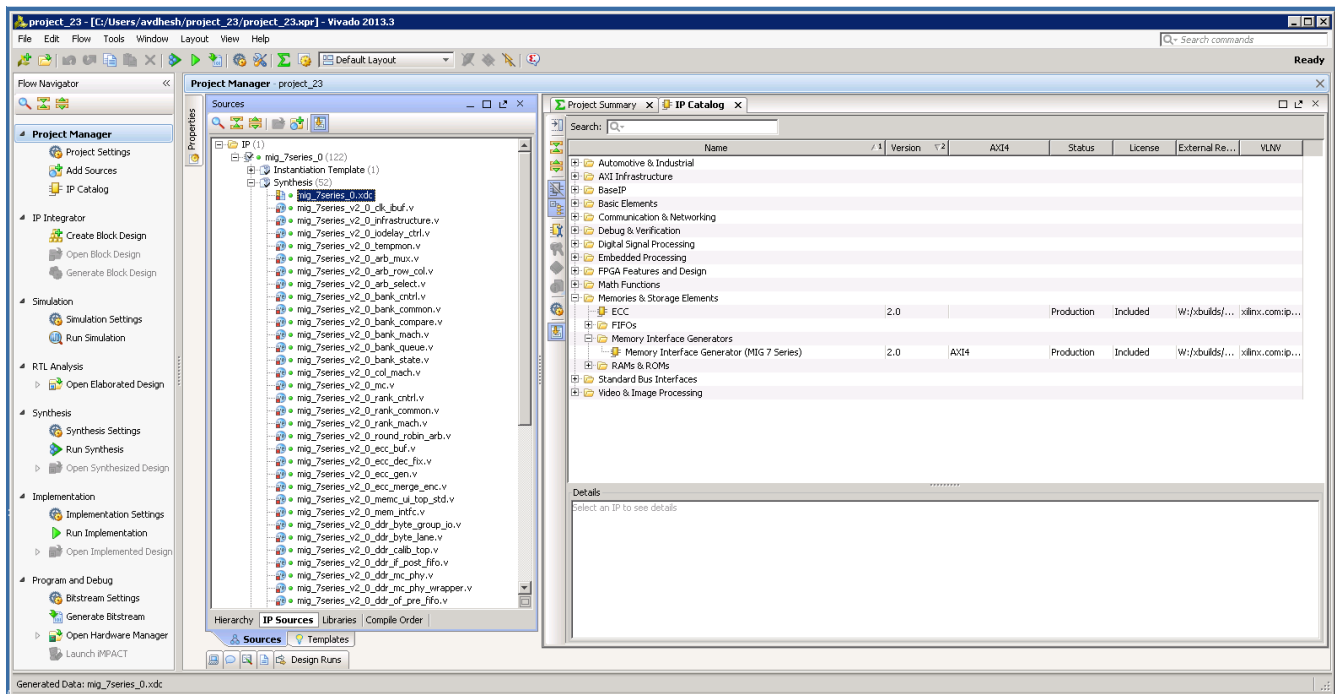

Figure 2-34: Vivado Project – RTL and Constraints Files
8. All user-design RTL files and constraints files (XDC files) can be viewed in the **Sources > Libraries** tab (Figure 2-34).